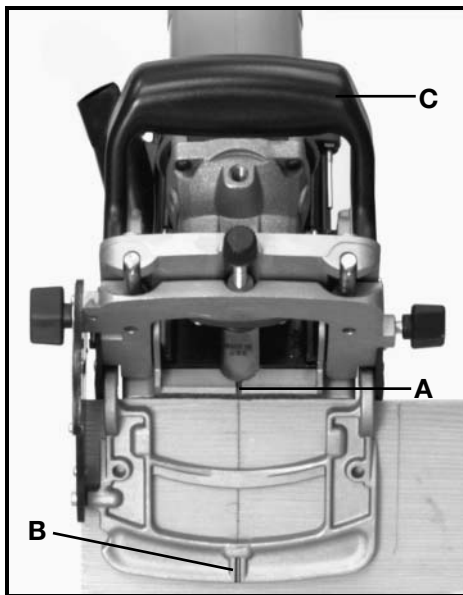

Fig. 27
6. Position tool to workpiece utilizing either guide notch (A) or (B) Fig. 27, to align tool with a groove centerline.
Apply pressure to auxiliary handle (C) Fig. 27, to hold tool firmly in place.